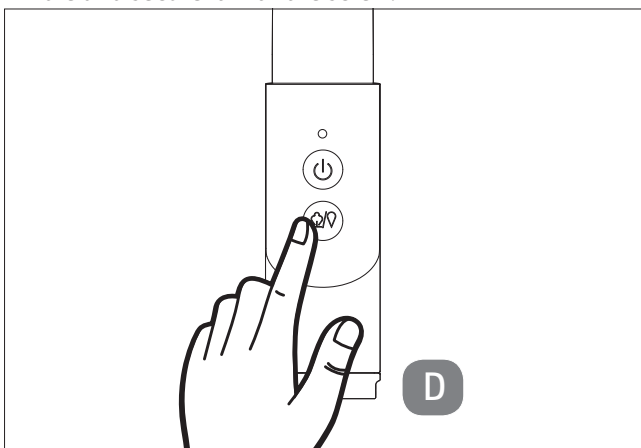

Fig. 15 – Connecting the remote control to the appliance
- ▶ After installation, press the spray/steam button  for approx. 8 seconds to connect the remote control to the main appliance (see Fig. 15, D). If the connection is successful, the indicator light on the handle flashes 8 times.